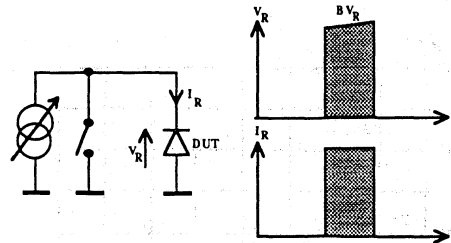

Figure 9. Constant Current Characterization Circuit.
Different test circuits similar to figure 9 have been proposed by Gauen (1) and Pshaenich (2). Some unexpected failures in MOSFETs suggest that the DUT should always be referenced to ground. Unlike UFRs and SBRs, MOSFETs react differently whether they are tied to ground or floating around a fluctuating voltage. Many floating transistors fail at very low stress levels probably due to capacitive coupled currents that turn-on the internal parasitic transistor.
The test circuit shown in figure 9 sets a constant avalanche current through the device until it fails, this duration can then be plotted for different current levels. This generates a graph similar to the UIS method, except that the current is constant instead of decreasing linearly.